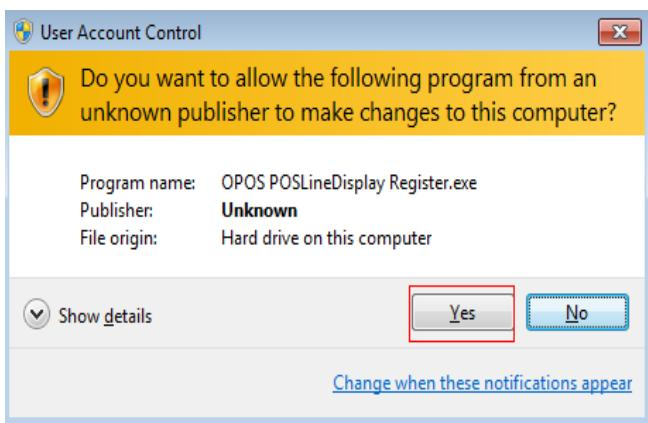

Figure 3-5.the user account control dialog,
3. The User Account Control Dialog is display, Press yes button, see figure 3-5.